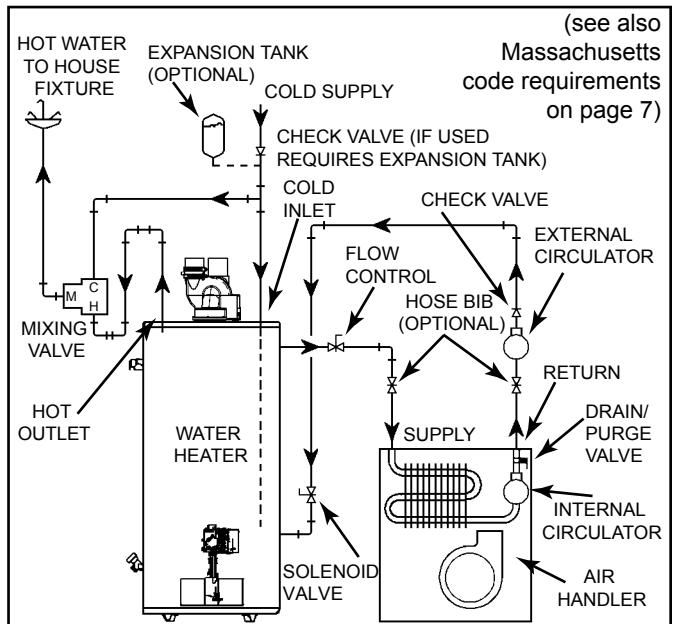
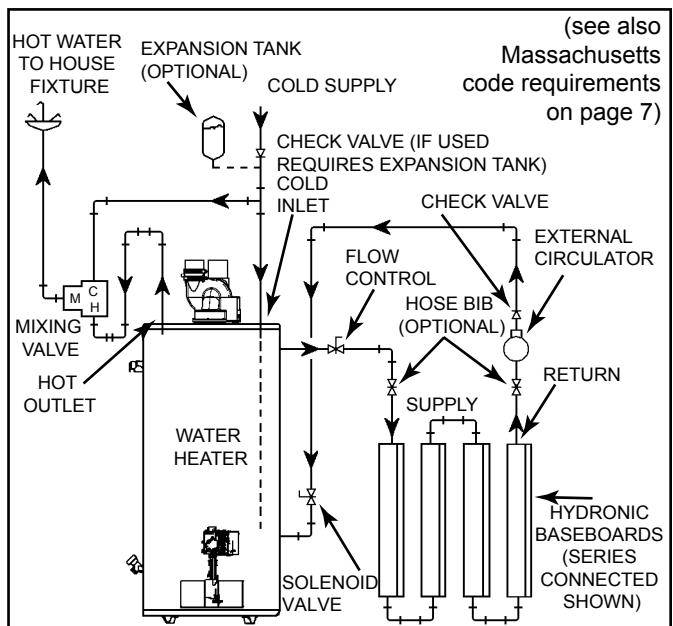

Figure 22.
Figure 23.
8. “Combo” Heating Systems require higher water temperatures than other applications. When the system is used to supply water for Combo Heating applications, a means, such as mixing valve, must be installed to temper the water in order to reduce scald hazard potential (see Figure 22 & Figure 23).
- A. A fan coil/air handler (Figure 22).
- B. A hydronic baseboard (finned tube) loop/In floor heating (Figure 23).